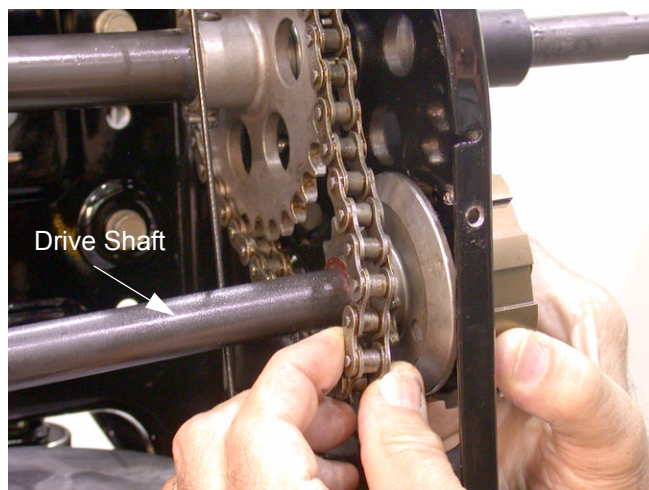

Figure 28
12.2. Lift up on the right side of the drive shaft to allow removal of the right chain. See Figure 28.